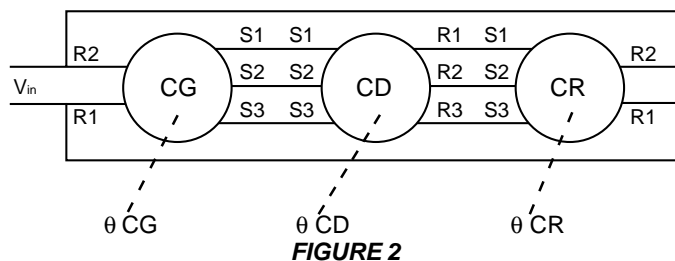

FIGURE 2
A third type of synchro may be added to our basic torque system – the differential (CD). The differential stator is three-phase, Y-connected and is usually the primary element; the rotor is cylindrical and is also wound with three Y-connected phases. The output voltages of the CD depend not only on the input voltages but also on the rotor shaft position. As shown in figure 2, the differential stator is normally excited from a transmitter stator, and the differential rotor is connected to the receiver stator. The output voltages of the differential are dependent now on both the transmitter rotor position ( $\theta_{CG}$ ) and its own rotor position ( $\theta_{CD}$ ). The receiver rotor will seek a position ( $\theta_{CR}$ ) which is either the sum or difference of the transmitter and differential rotor angles ( $\theta_{CR} = \theta_{CG} \pm \theta_{CD}$ ), depending on how the CG and CD stators are interconnected.